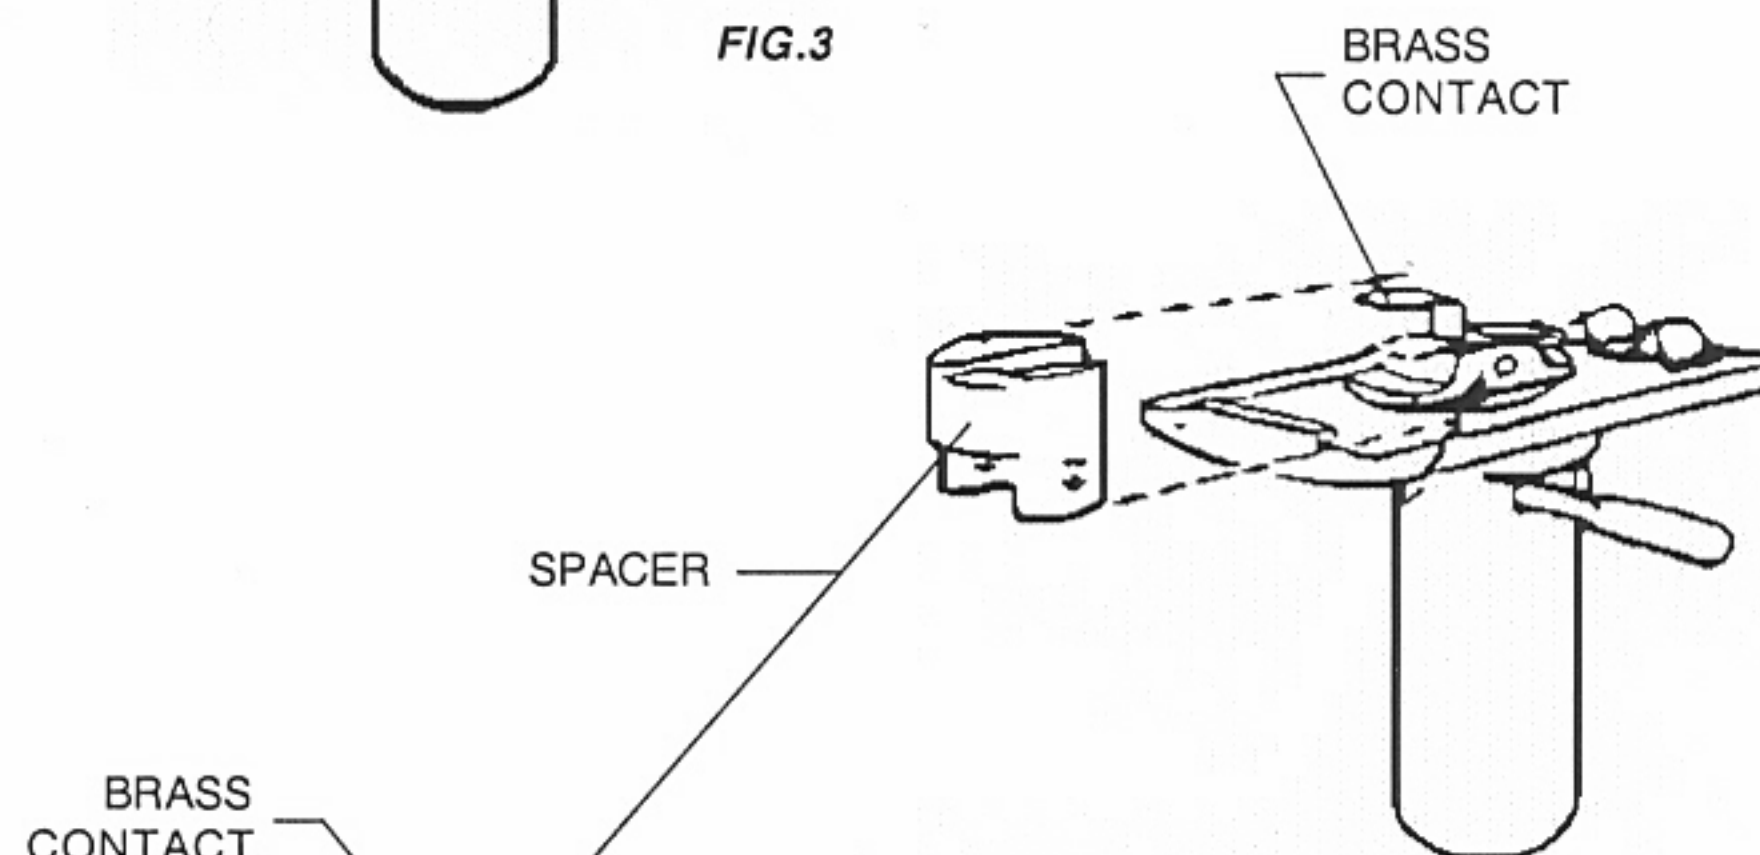

FIG.4
- 1a. Raise the brass contact until it clicks into position. (Fig.4)
- 1b. Slide the spacer under the brass contact. (Fig.4 and 5)
2. Repeat previous steps (A) single circuit : 1 to 4.